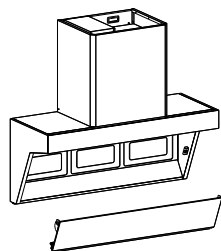

Fig.11
- Hold the flip glass with both hands and open it upwards to the limit, then lift it upwards, and the flip glass can be removed (Fig.11).